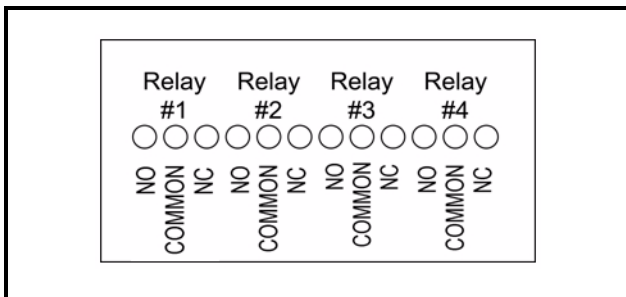

Figure 5-1 - RLDS Relay Connector
1. Secure the leads to the connector orienting them as shown in *Figure 5-1*. Wire the leads to either the N.C. or N.O. terminals of each relay, depending on whether you want the relay to be CLOSED or OPEN when de-energized.